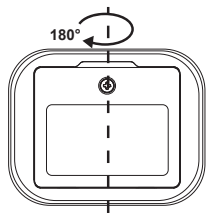

FIG. 2
d. In the same location, rotate the equipment 180° (see the following FIG. 2), then press the **MODE** button, "CAL 2" flashes several times. After the "CAL 2" disappears, the calibration is completed and then the LCD will show the current angle in high-accuracy-display.